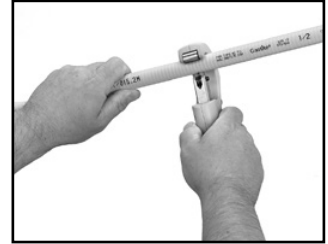

Fig. 4-2
STEP 1 CUT-TO-LENGTH (FIG. 4-2)